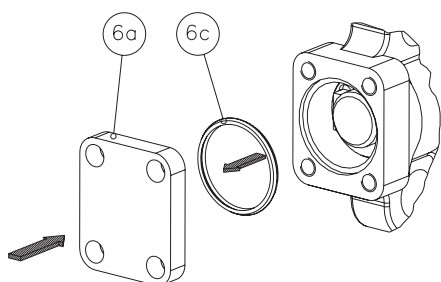

FIGURE NO. 6A
- solution 1 - ref. to figure no. 6a: align the internal slot of the seal ring (3a) to the reference pin (F).
- solution 1 - ref. to figure no. 6a: make sure that the slot on the edge of the seal retainer ring (B) is in correspondence with reference pin (F).
Use a torque value from Table III for valves according to solution 1 (ref. to figure no. 6a).
• *Solution 1 - ref. to figure no. 6a:*